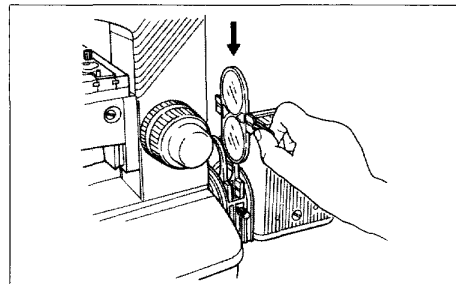

Fig. 2-18
- Push the filter holder down into the filter holder mount (Fig. 2-18). Keep the three filter holders mounted to give protection from dust even when the filters are not mounted.